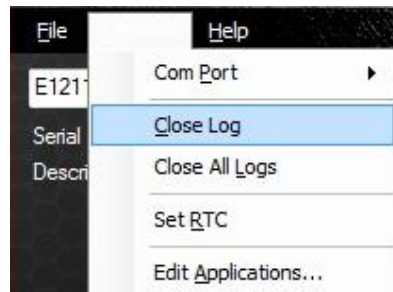

Figure 6.5-2: Close Log from Options Menu
3. Select "Close Log" from the Options menu (Figure 6.5-2).